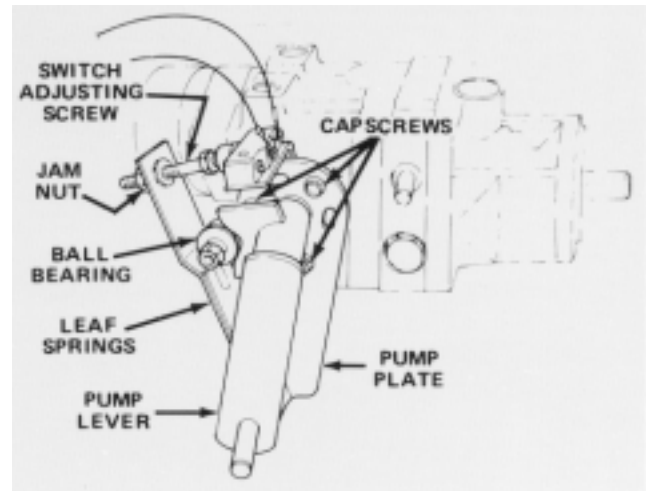

Figure 38
1. Park vehicle on a level surface and turn engine off. Apply the parking brake, tip seat forward, and actuate pump lever (Fig. 38) to ensure assembly is properly seated and operating freely. Correct any discrepancy.
6. Because the wheel is rotating, the pump plate must be adjusted. But before adjusting the pump plate, move throttle to SLOW. If wheel is rotating forward, loosen capscrews, and lightly tap bottom of pump plate counterclockwise (Fig. 38). By contrast, tap pump plate clockwise if wheel is rotating backward (Fig. 38). When
11. Because the wheel is rotating, the pump plate must be adjusted. But before adjusting the pump plate, move throttle to SLOW. If wheel is rotating forward, loosen capscrews, and lightly tap bottom of pump plate counterclockwise (Fig. 38). By contrast, tap pump plate clockwise if wheel is rotating backward (Fig. 38). When wheel stops rotating, tighten capscrews holding pump plate against side of transmission. Verify the adjustment with throttle in SLOW and FAST position.
- Ball bearing is loose or worn out (Fig. 38).
- Weak or damaged leaf springs (Fig. 38). Replace.
2. Actuate the pump lever (Fig. 38) to ensure all parts are operating freely and seated properly.
3. Loosen jam nut. Rotate switch adjusting screw (Fig. 38) until there is a gap between head of screw and switch button.